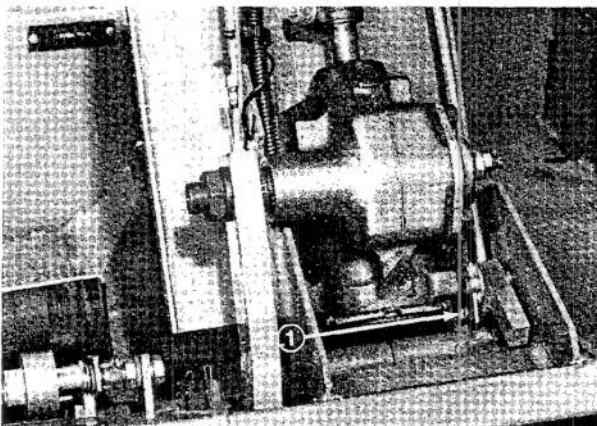
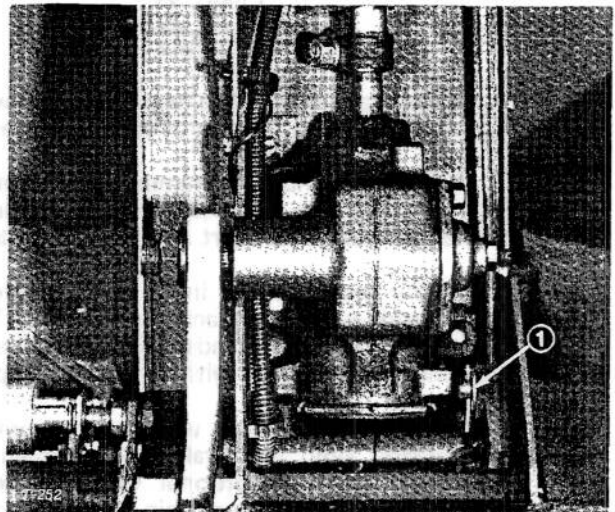

Figure 39
Figure 40
4. Remove cotter pin and flatwasher from bottom end of parking brake rod (Fig. 39) and cotter pin and flatwasher holding rack (Fig. 40). Lift up on gear box and remove brake rod from rack. Remove the other flatwasher from the rod and slide rod out of hole in the steering tower.
2. Remove cotter pin and flatwasher securing lower end of parking brake rod (Fig. 39) and cotter pin and flatwasher securing rack (Fig. 40). Lift up on gear box, slide rack outward towards gear box off the pivot pin (Fig. 40). Slide rod out of rack.